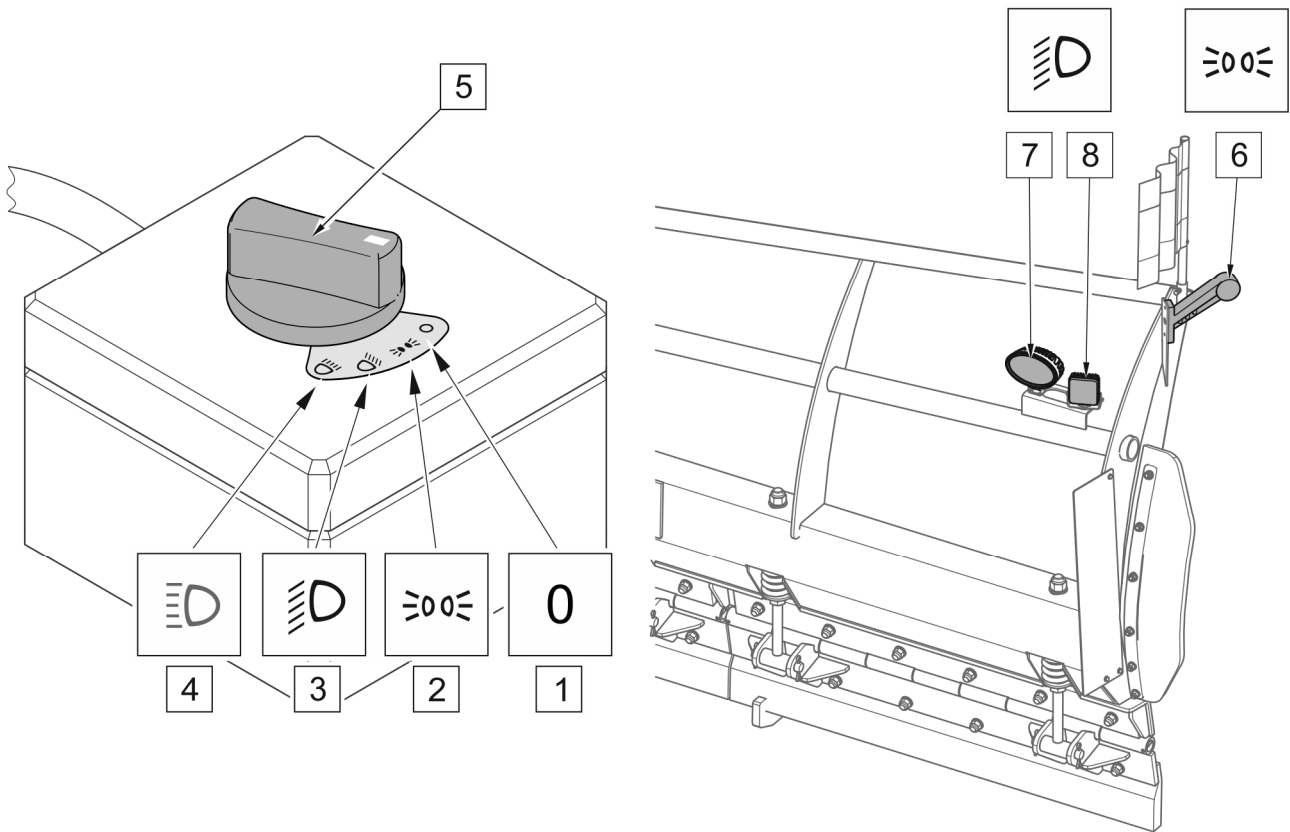

FIG. 4.14 Switch on the plough lighting (basic version)
(1) - lighting turned off; (2) - clearance light is on; (3) - working light, beacon warning light and clearance lights are on; (4) - function not used; (5) - lighting switch; (6) - clearance lamp; (7) - work lamp; (8) - beacon (yellow)
In the snowplough controlled by the external hydraulics (FIG. 4.14) of the carrier vehicle, the lighting is turned on using the switch (5). Turn the switch to position (2) to switch on the clearance lights (6). The beacon (8) and work light (7) are activated simultaneously when the switch (5) is moved to position (3).